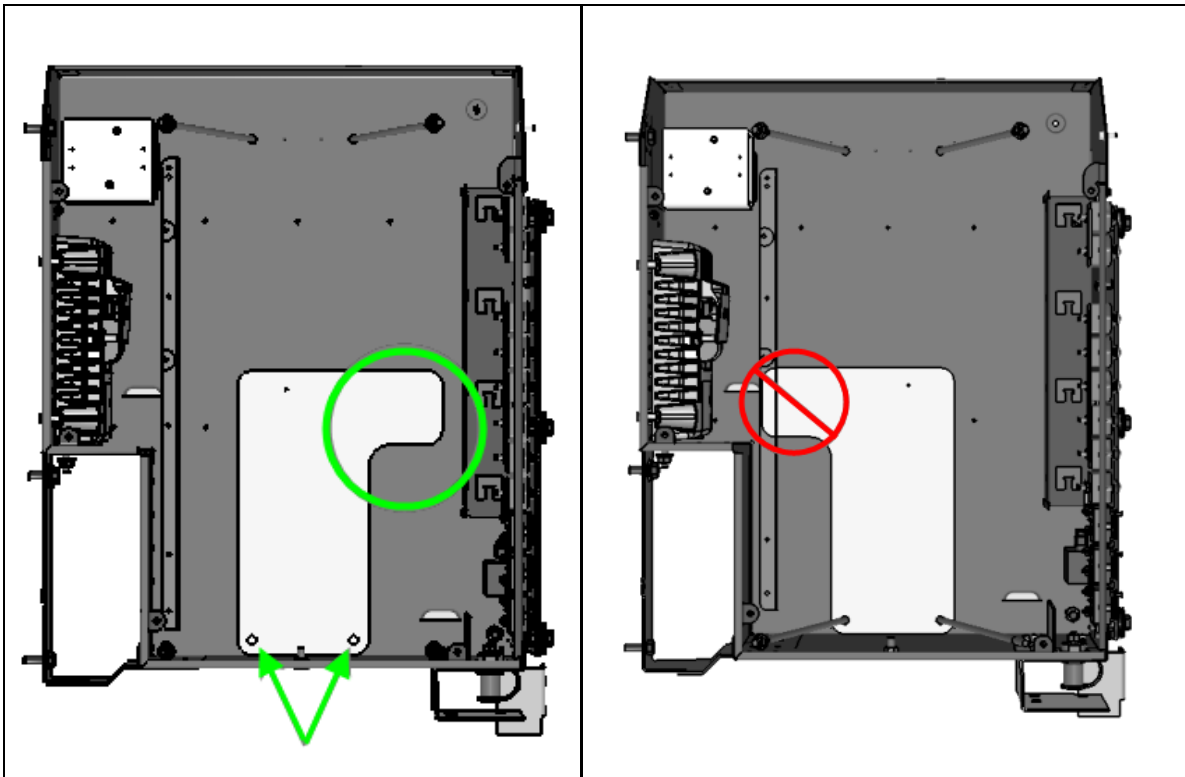

Fig.4 Correctly positioned drilling template shown on the left.
- Position the drilling template at the bottom of the battery box using the hold-down rods holes (Fig.4).